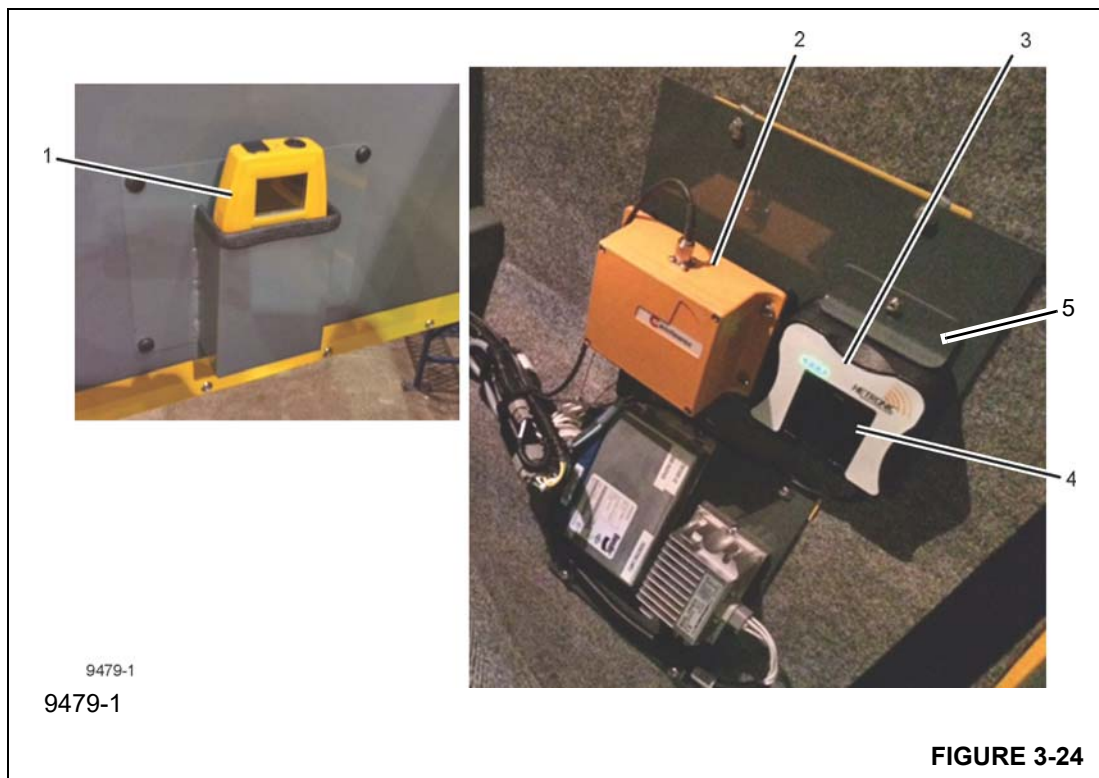

FIGURE 3-24
- A hand held remote transmitter (1) (Figure 3-24)
- A receiver (2) mounted behind the seat in the carrier cab.
- A battery charger (3).
- A second battery (4). The other battery is in the remote.
- The battery charger clip (5) that holds the charger in place.